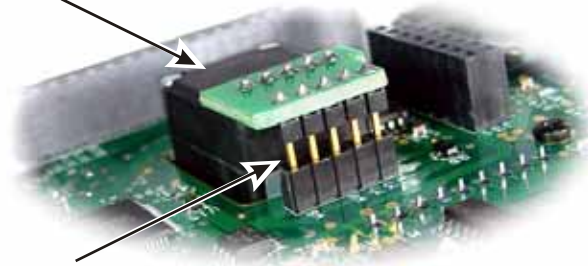

Figure 38. Preparing VFO Encoders for Mounting.
- ☐ Prepare the encoder assemblies as follows (See Figure 38). The encoders are identical except for the hardware added as shown.